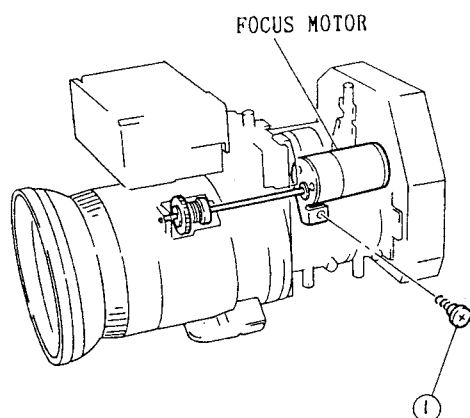

Fig. 2-104
1. Remove one (1) screw holding the focus motor. (See Fig. 2-104)